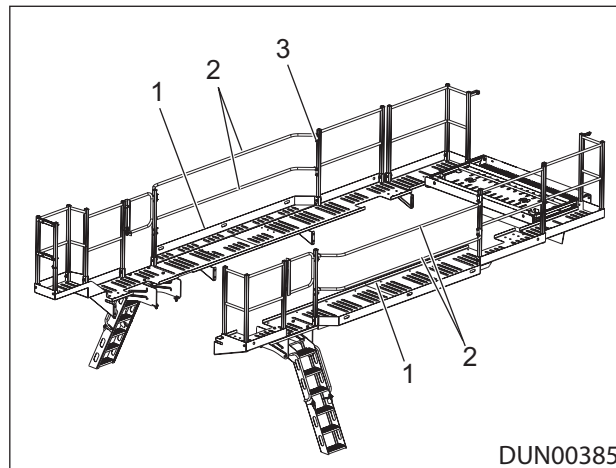

Figure 6.12 - Maintenance Platform Handrails in the Working Positions
5. Remove the nuts and bolts from each end of the handrails (item 3), Ref: Figure 6.12.
6. Rotate the upper and lower handrails (item 2) on both sides of the machine into the working position, Ref: Figure 6.12.
7. Replace and tighten the nuts and bolts in each end of the handrails (item 3) to secure them in the working position, Ref: Figure 6.12.
8. Rotate the bottom section of the maintenance platform (item 1) on both sides of the machine into the working position, Ref: Figure 6.12.